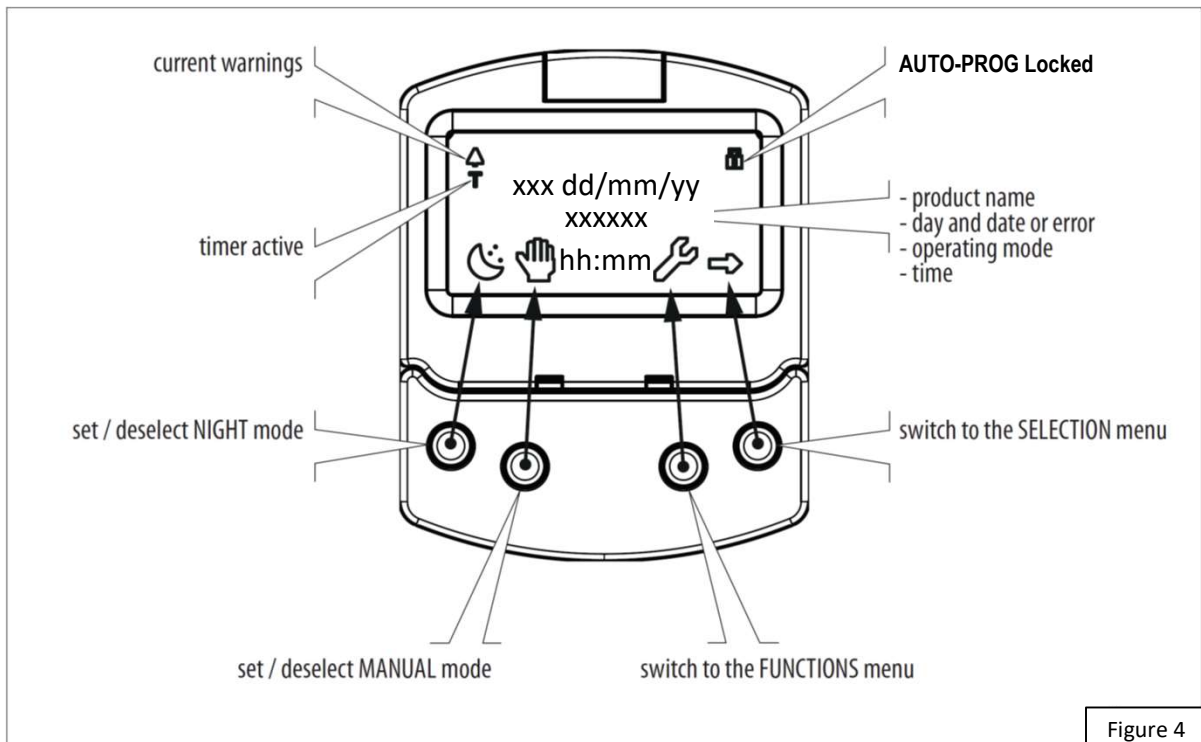

Figure 4
The content of this home screen is explained below in Figure 4 below.
4. By pressing the relative button on the home screen (Fig. 4) you can: